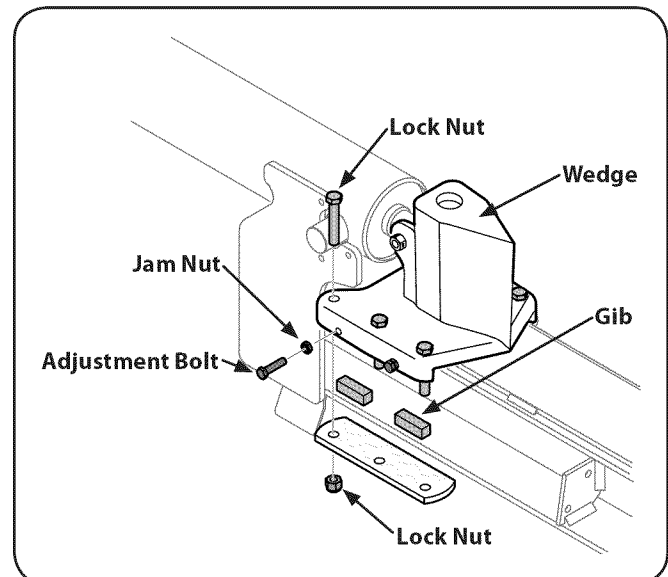

Figure 6-3
- Loosen the jam nuts on the two adjustment bolts on the side of the wedge. See Fig. 6-3.
1. Loosen the lock nuts under each back plate and slide the gibs out. See Fig. 6-3.